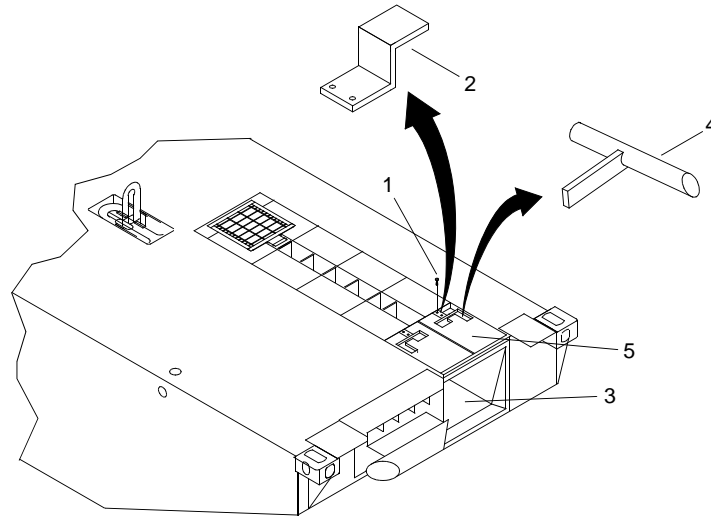

Figure 1. Flexor Well Chute Bolt and Cover Removal
1. Remove bolts (figure 1, item 1) securing flexor well chute bolt cover (figure 1, item 2) to flexor well (figure 1, item 3).
2. Remove flexor well chute bolt cover (figure 1, item 2) from flexor well (figure 1, item 3).
3. Remove flexor well chute bolt (figure 1, item 4) from inside flexor well (figure 1, item 3).
1. Position flexor well chute bolt (figure 1, item 4) into flexor well (figure 1, item 3).
2. Apply coat of adhesive to threads of bolts (figure 1, item 1).
3. Position flexor well chute bolt cover (figure 1, item 2) through opening of flexor well top cover (figure 1, item 5).
4. Install bolts (figure 1, item 1) to secure flexor well chute bolt cover (figure 1, item 2) in flexor well (figure 1, item 3). Tighten bolts (figure 1, item 1).